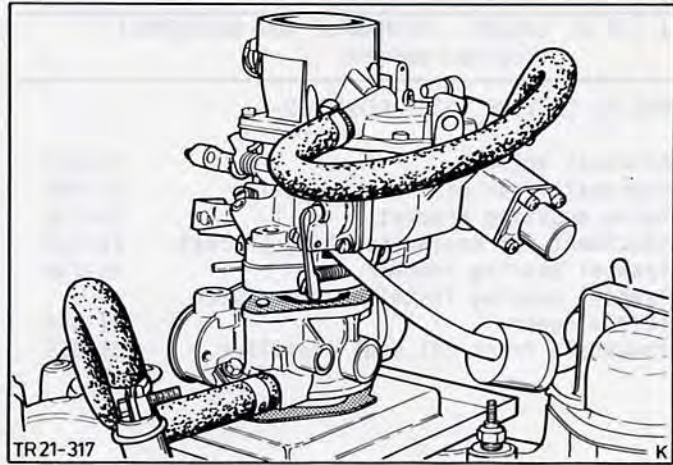

Fig.30. Remove carburettor.
7. Detach carburettor complete with deceleration valve and governor (2 bolts), Fig.30.